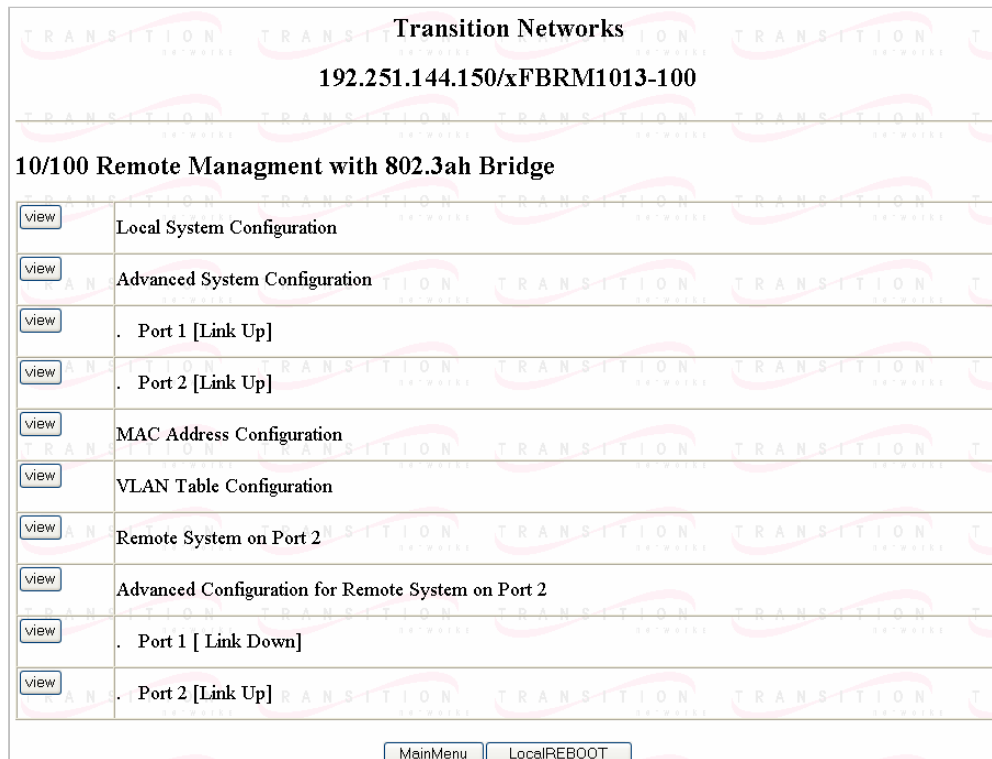

Figure 57: FBRM/BFFG Main Menu
5.	Click the LOG IN button to bring up the main menu of the Device. See Figure 57.